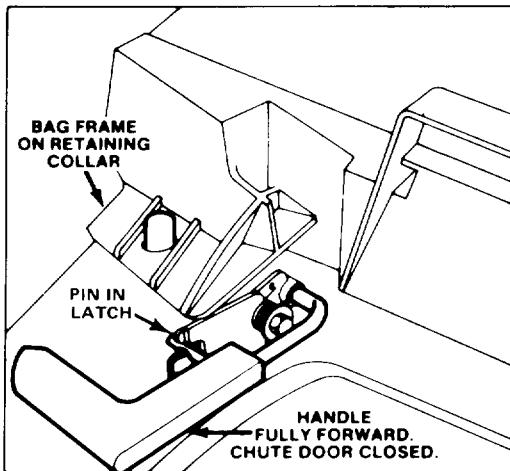

Figure 5
MULCH—In summer when grass grows slower and is drier, mulch by closing chute door (Fig. 5). For convenience and protection, keep grass bag on mower.
2. Assure chute door handle is fully forward and pin is engaged in catch (Fig. 5).
5. EMPTYING BAG—Release control bar and wait for blade to stop. Move chute door handle forward to engage the locking pin with catch (Fig. 5). Grasp handle at front and rear of bag and lift bag off mower. Gradually tip bag forward to empty clippings.